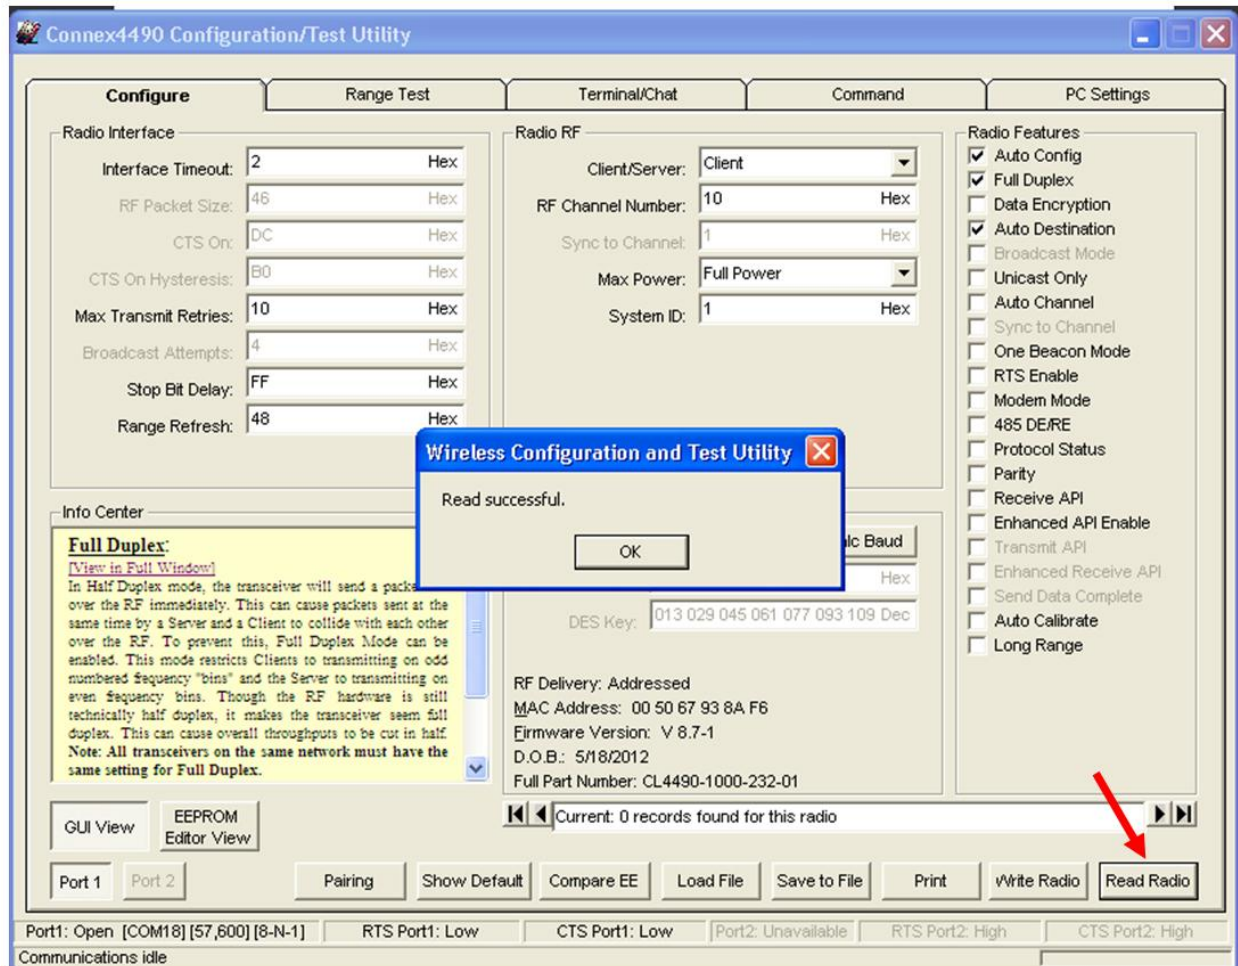

Figure 4: Configure tab - Read Successful
- Go to the Configure tab and click the **Read Radio** button at the bottom right of the screen. A message stating “Read Successful” should appear after a successful read (Figure 4).